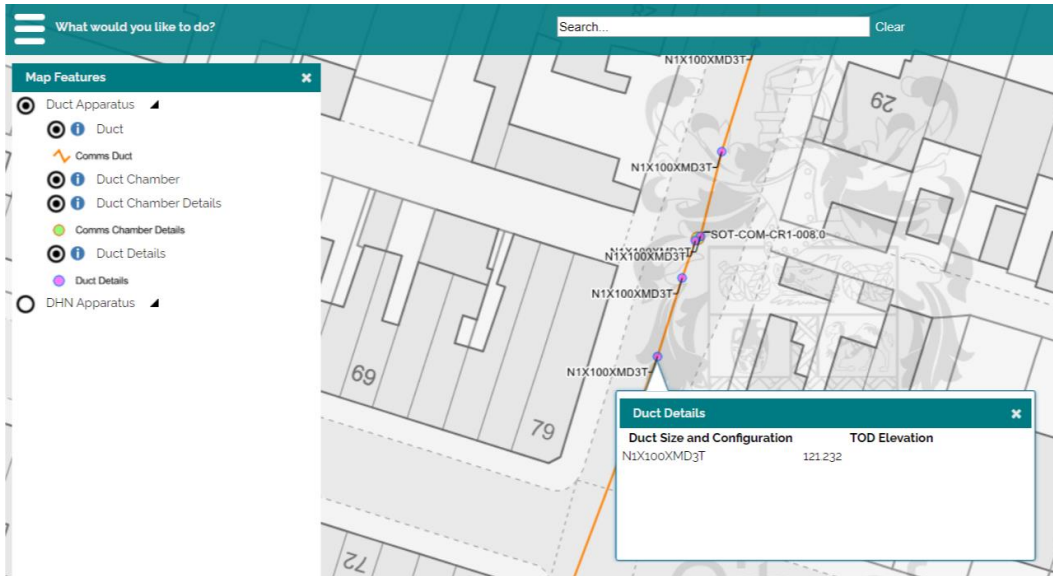

Figure 6 - Duct Details Layer.
- Duct Details – shows duct details regarding the duct. As for the Duct Chamber Details above, more information can be displayed by clicking on the feature as example presented in Figure 6. The detailed info includes:-